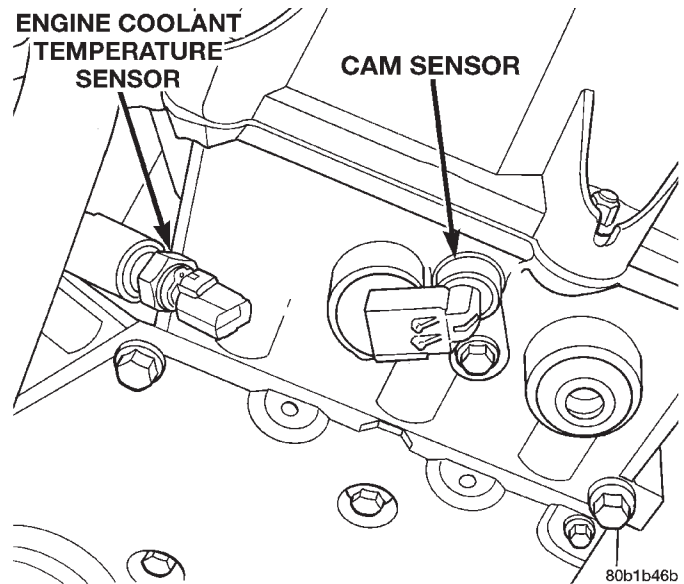
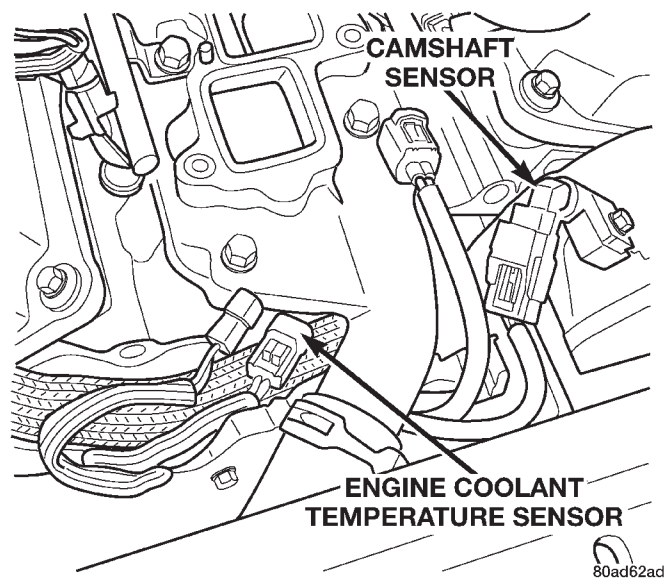

Fig. 48 Engine Coolant Temperature Sensor Location—2.7L
Fig. 49 Engine Coolant Temperature Sensor Location—3.2/3.5L
(1) With the key off, disconnect wire harness connector from coolant temperature sensor (Fig. 48) or (Fig. 49).
(2) Connect a high input impedance (digital) volt-ohmmeter to terminals A and B. The ohmmeter should read as follows:
(3) Test the resistance of the wire harness between the PCM 40-way connector terminal 26 and the sensor harness connector. Refer to Group 8W, Wiring diagrams for circuit information. If the resistance is greater than 1 ohm, repair the wire harness as necessary.